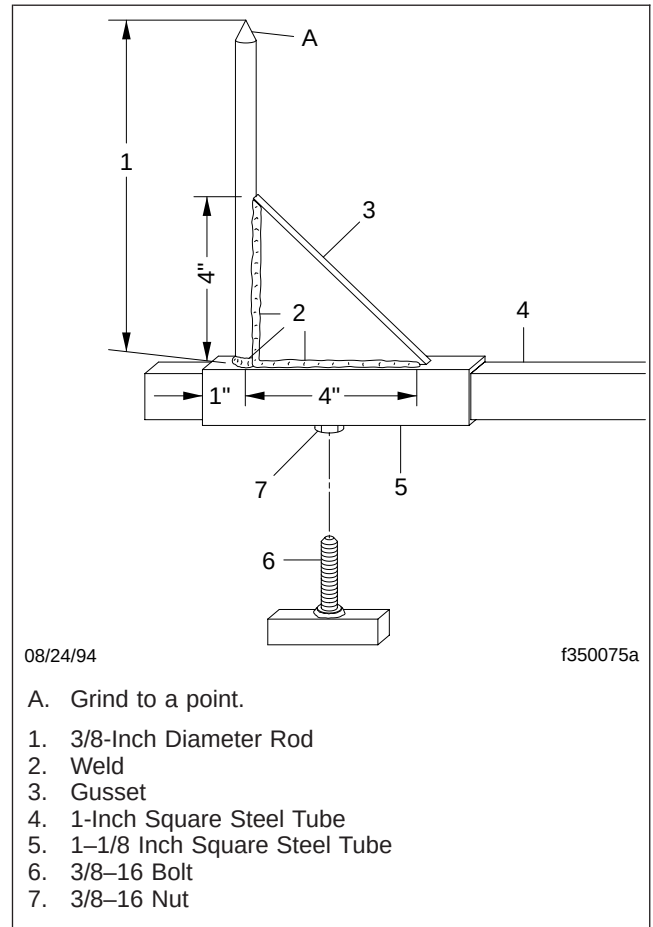

Fig. 1, Center Point Bar Construction
4. Weld the pointed steel rods to the slides and gussets, as shown in **Fig. 1**.